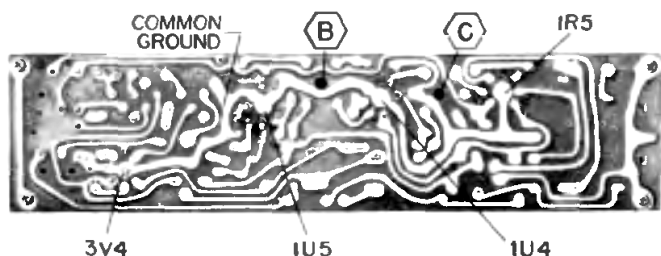

Figure 2. Bottom View of Chassis 200. Tube Locations and Alignment Points Shown.
- DO NOT connect earth ground to common ground (see figs. 2 and 4).